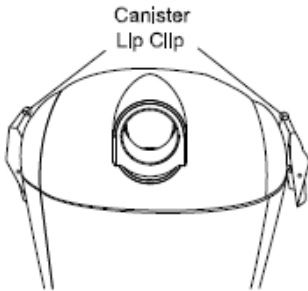

Fig. 1
1. Push/press fit the hose into the lid opening. (Fig 1)
(Fig. 1)
1. To open the canister lid, pull up the canister lid tabs on each side of the unit and remove canister lid. (Fig.1)